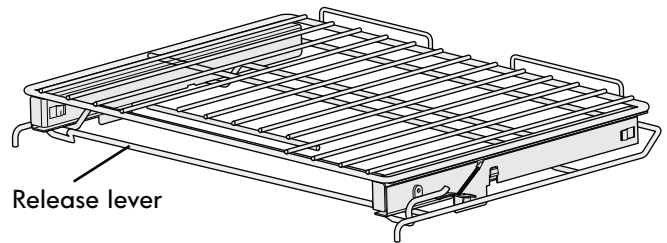

Figure 18: Extensible Glide Rack with release lever in locked position
1. Lift up on the release lever located across the lower front of the rack, as shown in Figure 18.